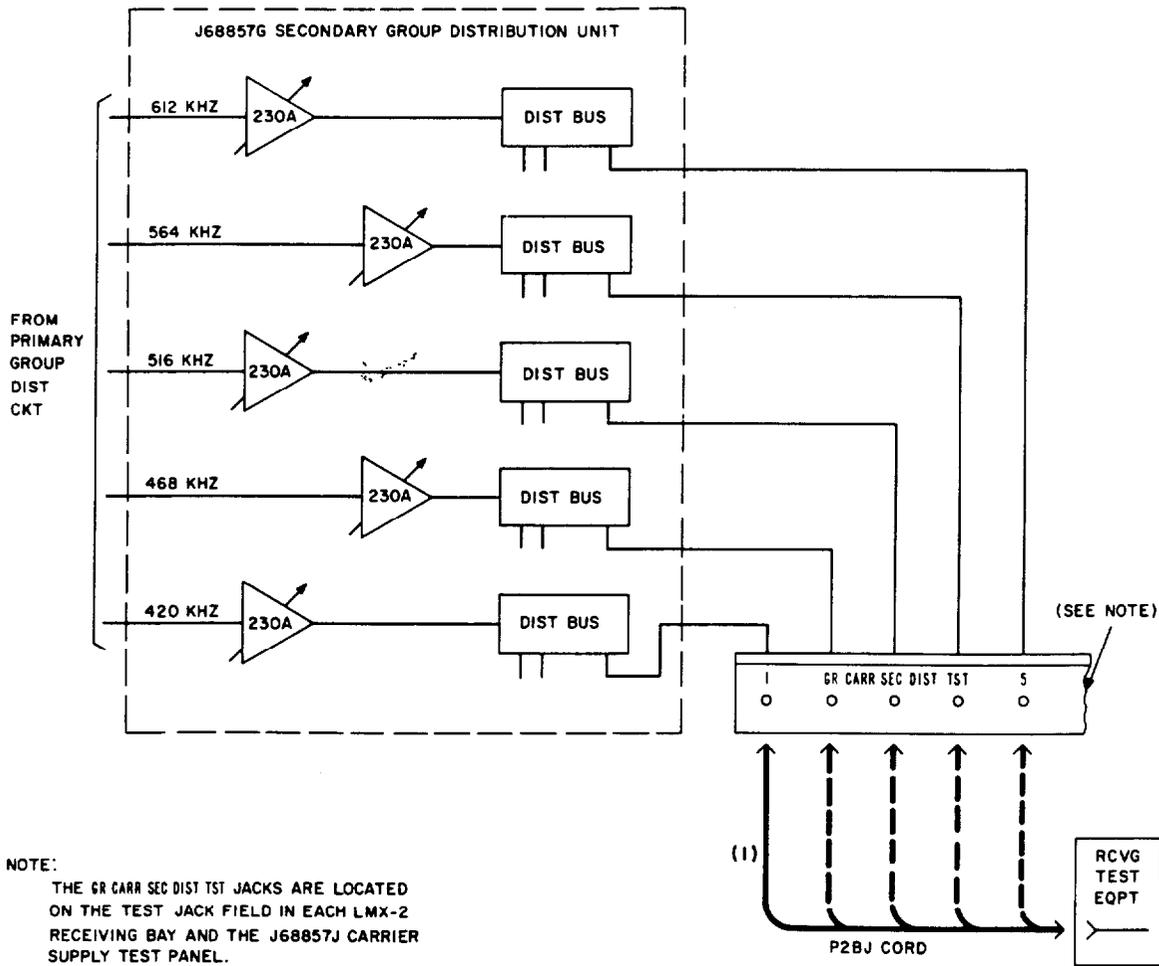

Fig. 2—Group Carrier Supply—Measurement of Secondary Group Distribution Circuit Output Power
2	Make patch (1) in Fig. 2 for the frequency to be tested.
6	Remove patch (1) in Fig. 2.